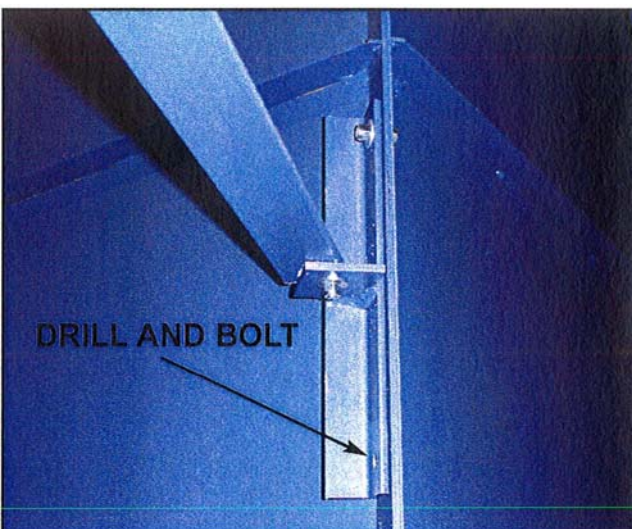

Figure 12
- Use angle attachments to brace unit. Drill through unit flanges to attach to unit. Use shipping angles that are provided to attach to the customer's building, mezzanine, etc. See Figure 12.